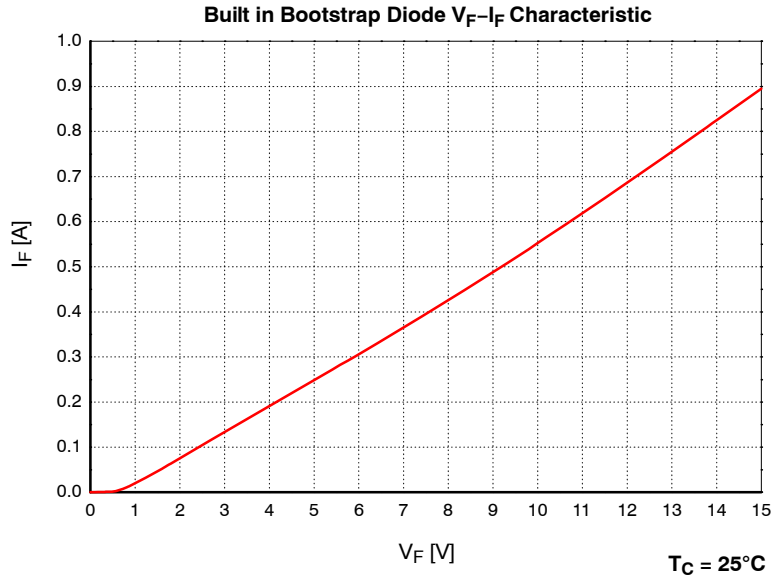

Figure 2. Built in Bootstrap Diode Characteristics (Typical)
- Built in bootstrap diode includes around 15Ω resistance characteristic. Please refer to Figure 2.